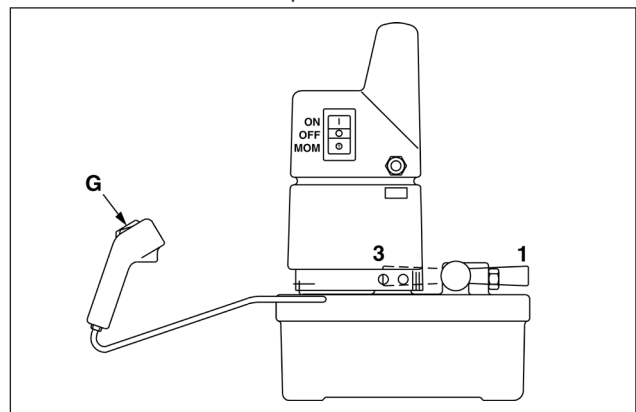

Figure 7
5.1 Switch Operation (Figure 7)